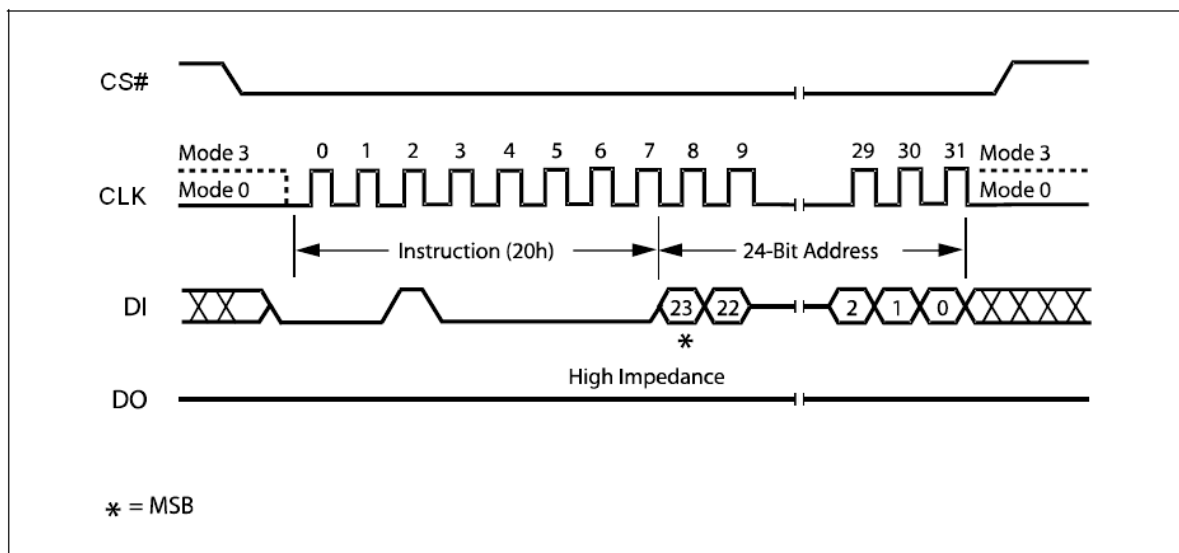

Figure 20. Sector Erase Instruction Sequence Diagram
The instruction sequence is shown in Figure 20. Chip Select (CS#) must be driven High after the eighth bit of the last address byte has been latched in, otherwise the Sector Erase (SE) instruction is not executed. As soon as Chip Select (CS#) is driven High, the self-timed Sector Erase cycle (whose duration is t_{SE}) is initiated. While the Sector Erase cycle is in progress, the Status Register may be read to check the value of the Write In Progress (WIP) bit. The Write In Progress (WIP) bit is 1 during the